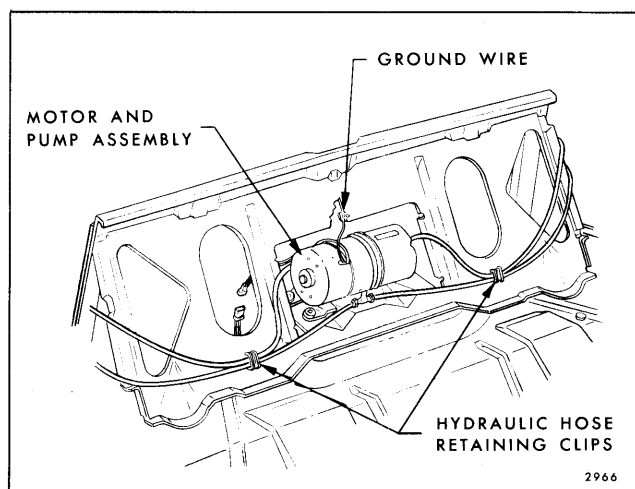
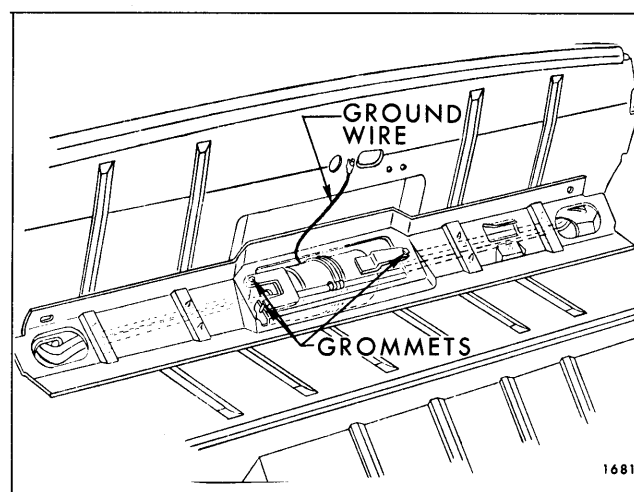

Fig. 13-54—Motor And Pump Assembly
Fig. 13-55—Hydro-Lectric Motor And Pump Assembly
The high pressure hydro-lectric unit used in the convertible bodies, consists of a 12 volt reversible type motor, a rotor-type pump, two hydraulic lift cylinders, and an upper and lower hydraulic hose assembly. On the "A" Series the unit is installed in the body directly behind rear seat back support (Fig. 13-54). On the "B, C & F" Series the unit is installed in the body beneath the rear seat back panel (Fig. 13-55).
7. To facilitate removal, apply a rubber lubricant to pump attaching grommets; then carefully disengage grommets from floor pan on "B, C & F" and from rear seat back support on "A" Body Styles (Figs. 13-54 and 13-55).
10. Disconnect hydraulic lines and cap open fittings to prevent leakage of fluid (Figs. 13-54 and 13-55). Use a cloth to absorb any leaking fluid, then remove unit from rear compartment.
- a. Check connection of motor ground wire to body metal. (See Figs. 13-54 and 13-55.)